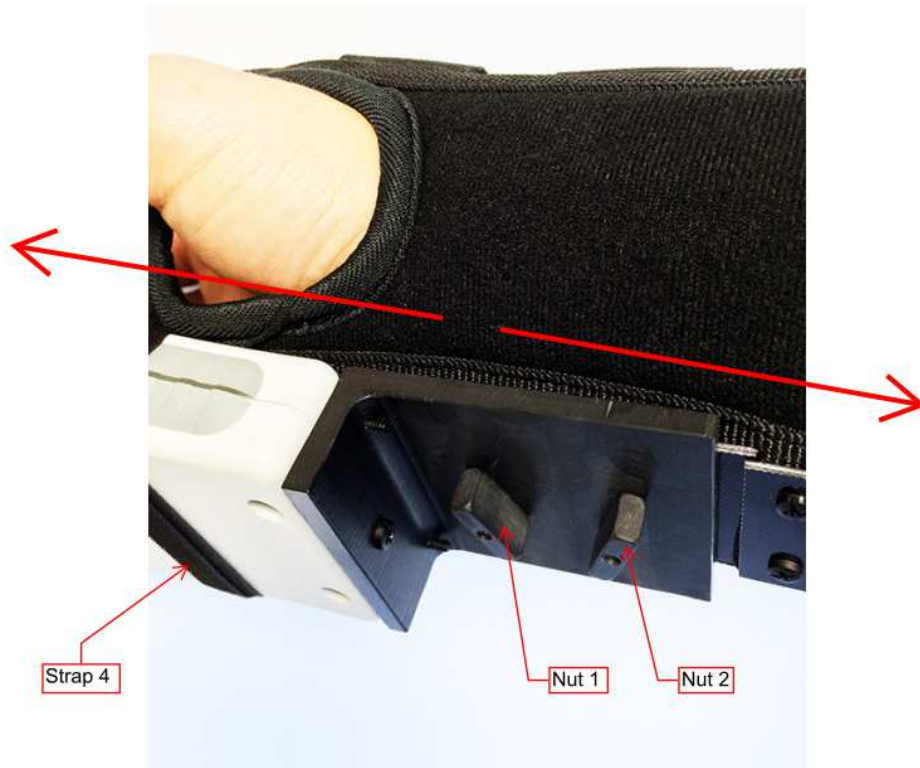

Fig 2: Wrist strap nut adjustment and Adjustment of Strap 4
- 4) Slide wrist forward and backward as depicted by the **RED** arrows in Fig 2.
- 5) Once the desired position (over the top of the buttons) is found tighten the nuts one (1) and two (2). **Do not over tighten the nut.**
- 6) Adjust strap 4, Fig 2.